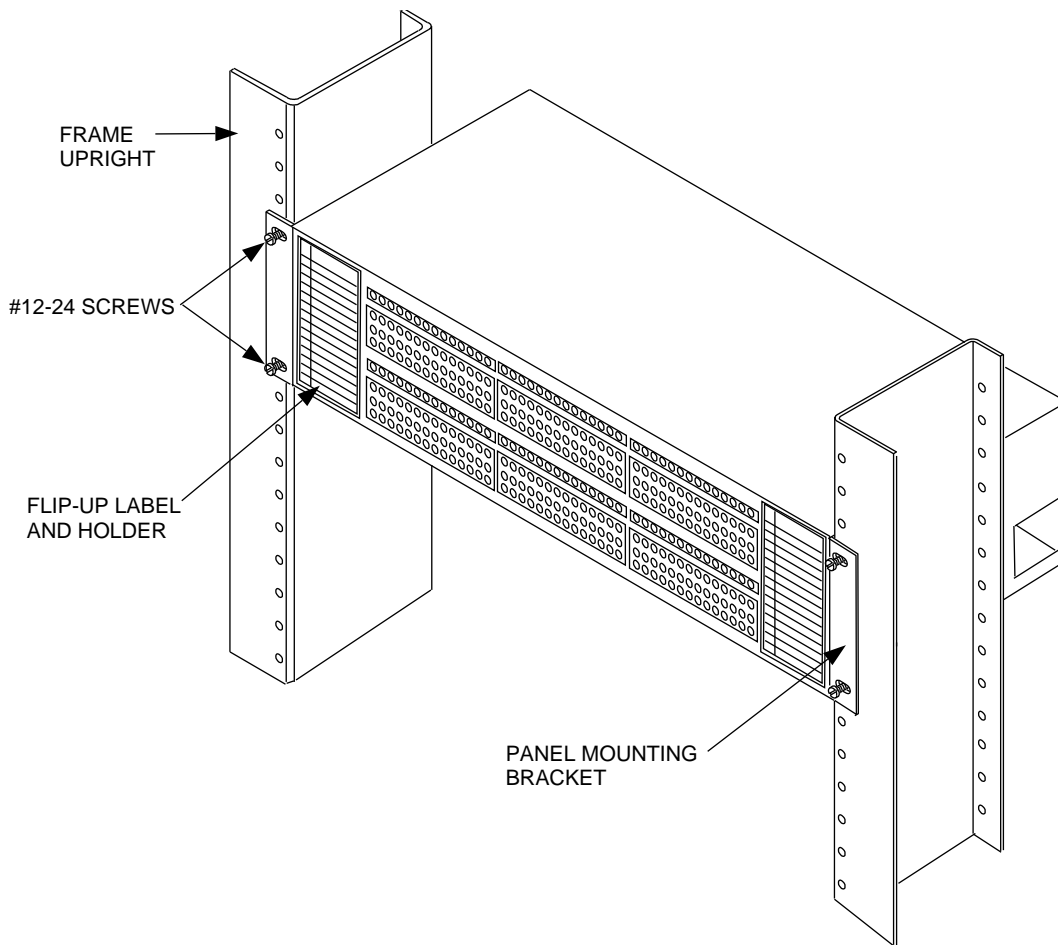

Figure 2. Mounting 84-Circuit Rear/Rear Hardwired Bantam Panel on Front of Frame
2. Place panel in existing 23-inch (584 mm) frame at desired location and fasten with four No. 12-24 by 3/8-inch (9.52 mm) long screws (see Figure 2).